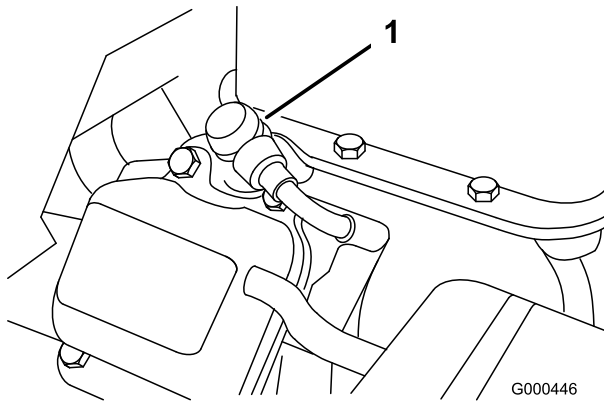

Figure 25
1. Pull the molded wire off spark plug (Figure 25).